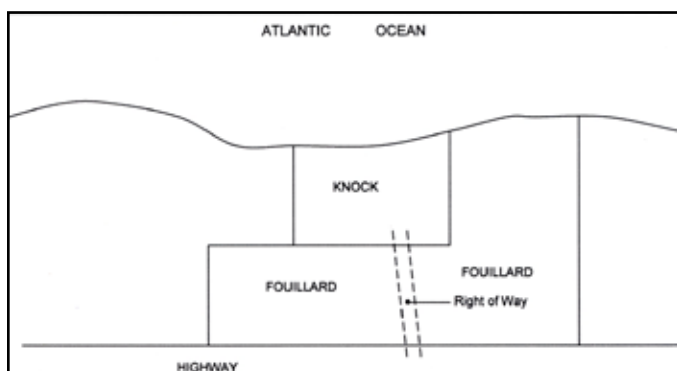

Figure 1: *Knock v. Fouillard*
The antenna information in the RINEX header, although not mandatory, is essential to reduce the computed position of the antenna phase centre to the survey marker. Two elements must be included in the header to ensure proper reduction of the phase centre position: the vertical height of the antenna above the marker ("ANTENNA: DELTA H/E/N" header record, note that horizontal offsets of that record are not used by CSRS-PPP), and the antenna model ("ANT # / TYPE" header record). The antenna model, which must conform to the International GNSS Service (IGS) naming convention (see [ftp://igsb.jpl.nasa.gov/pub/station/general/rcvr\\_ant.tab](ftp://igsb.jpl.nasa.gov/pub/station/general/rcvr_ant.tab)) is used to extract the antenna phase centre position from the CSRS-PPP antenna database. It is also used to obtain the azimuthal corrections specific to that antenna (see <http://www.ngs.noaa.gov/ANTCAL/images/summary.html>). Figure 1 shows the various points used to reference antenna measurements and naming conventions used by CSRS-PPP. It should be noted that the Antenna Reference Point (ARP) used by CSRS-PPP corresponds to the lowest point of the antenna, the point that would normally touch the top of the tribrach or force centering plate when the antenna is attached. This point may differ from the manufacturer indicated reference point on some antennae.
**Figure 1: The Antenna Phase Centre (APC) to the Antenna Reference Point (ARP) is provided by CSRS-PPP based on antenna model listed on the "ANTENNA: DELTA H/E/N" RINEX header record while the ARP to the Survey Marker vertical distance is provided by the user on the "ANT # / TYPE" RINEX header record. The ARP is usually the bottom of the antenna mount.**